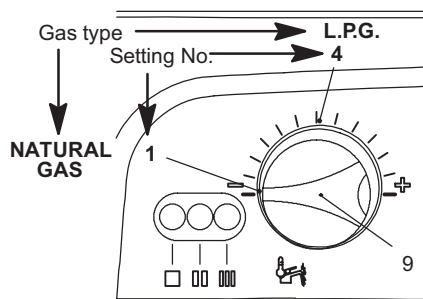

Fig. 8.5
rent setting by keeping the reset button 7 pressed for more than 5 seconds. The lamps 10 will flash a number of times corresponding to the setting of the knob 9 in Fig. 8.5.
- To change the setting turn the knob 9 on a position corresponding to the gas used as shown in Fig. 8.5. By turning the knob 9, the lock-out signal lamp 6 blinks quickly (2 per seconds) indicating that the setting has changed and must be memorised.